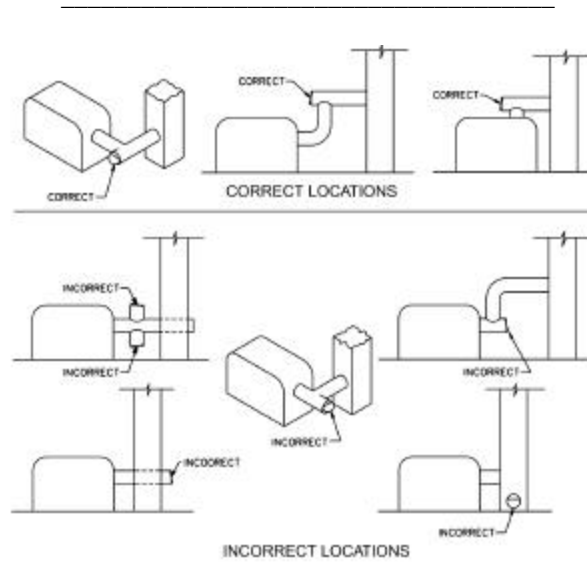

Figure 4: Location for Barometric Draft Regulators
- Gas utilization equipment requiring controlled draft may be equipped with a listed double acting barometric draft regulator, if approved by local codes (see Figure 4).